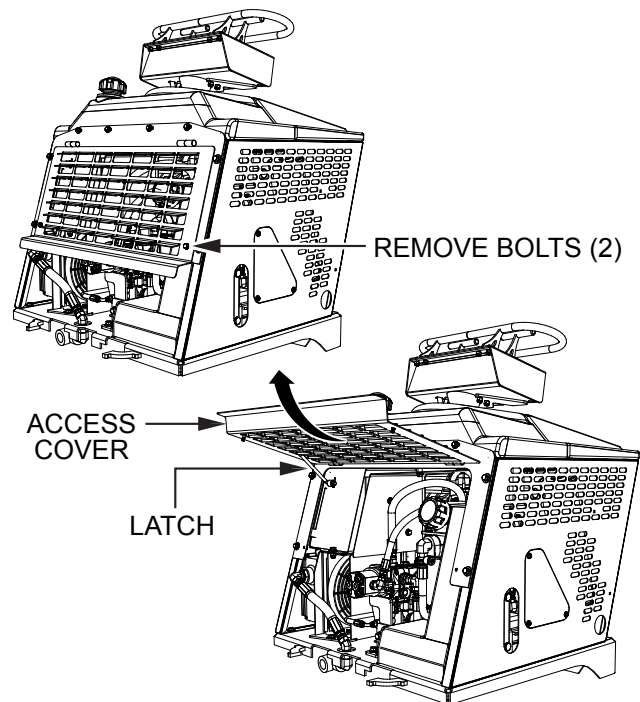

Figure 36. Access Cover
6. Remove the two bolts that secure the access cover (Figure 36) to the buggy frame.
7. Lift up on the access door and secure the latch (Figure 36).